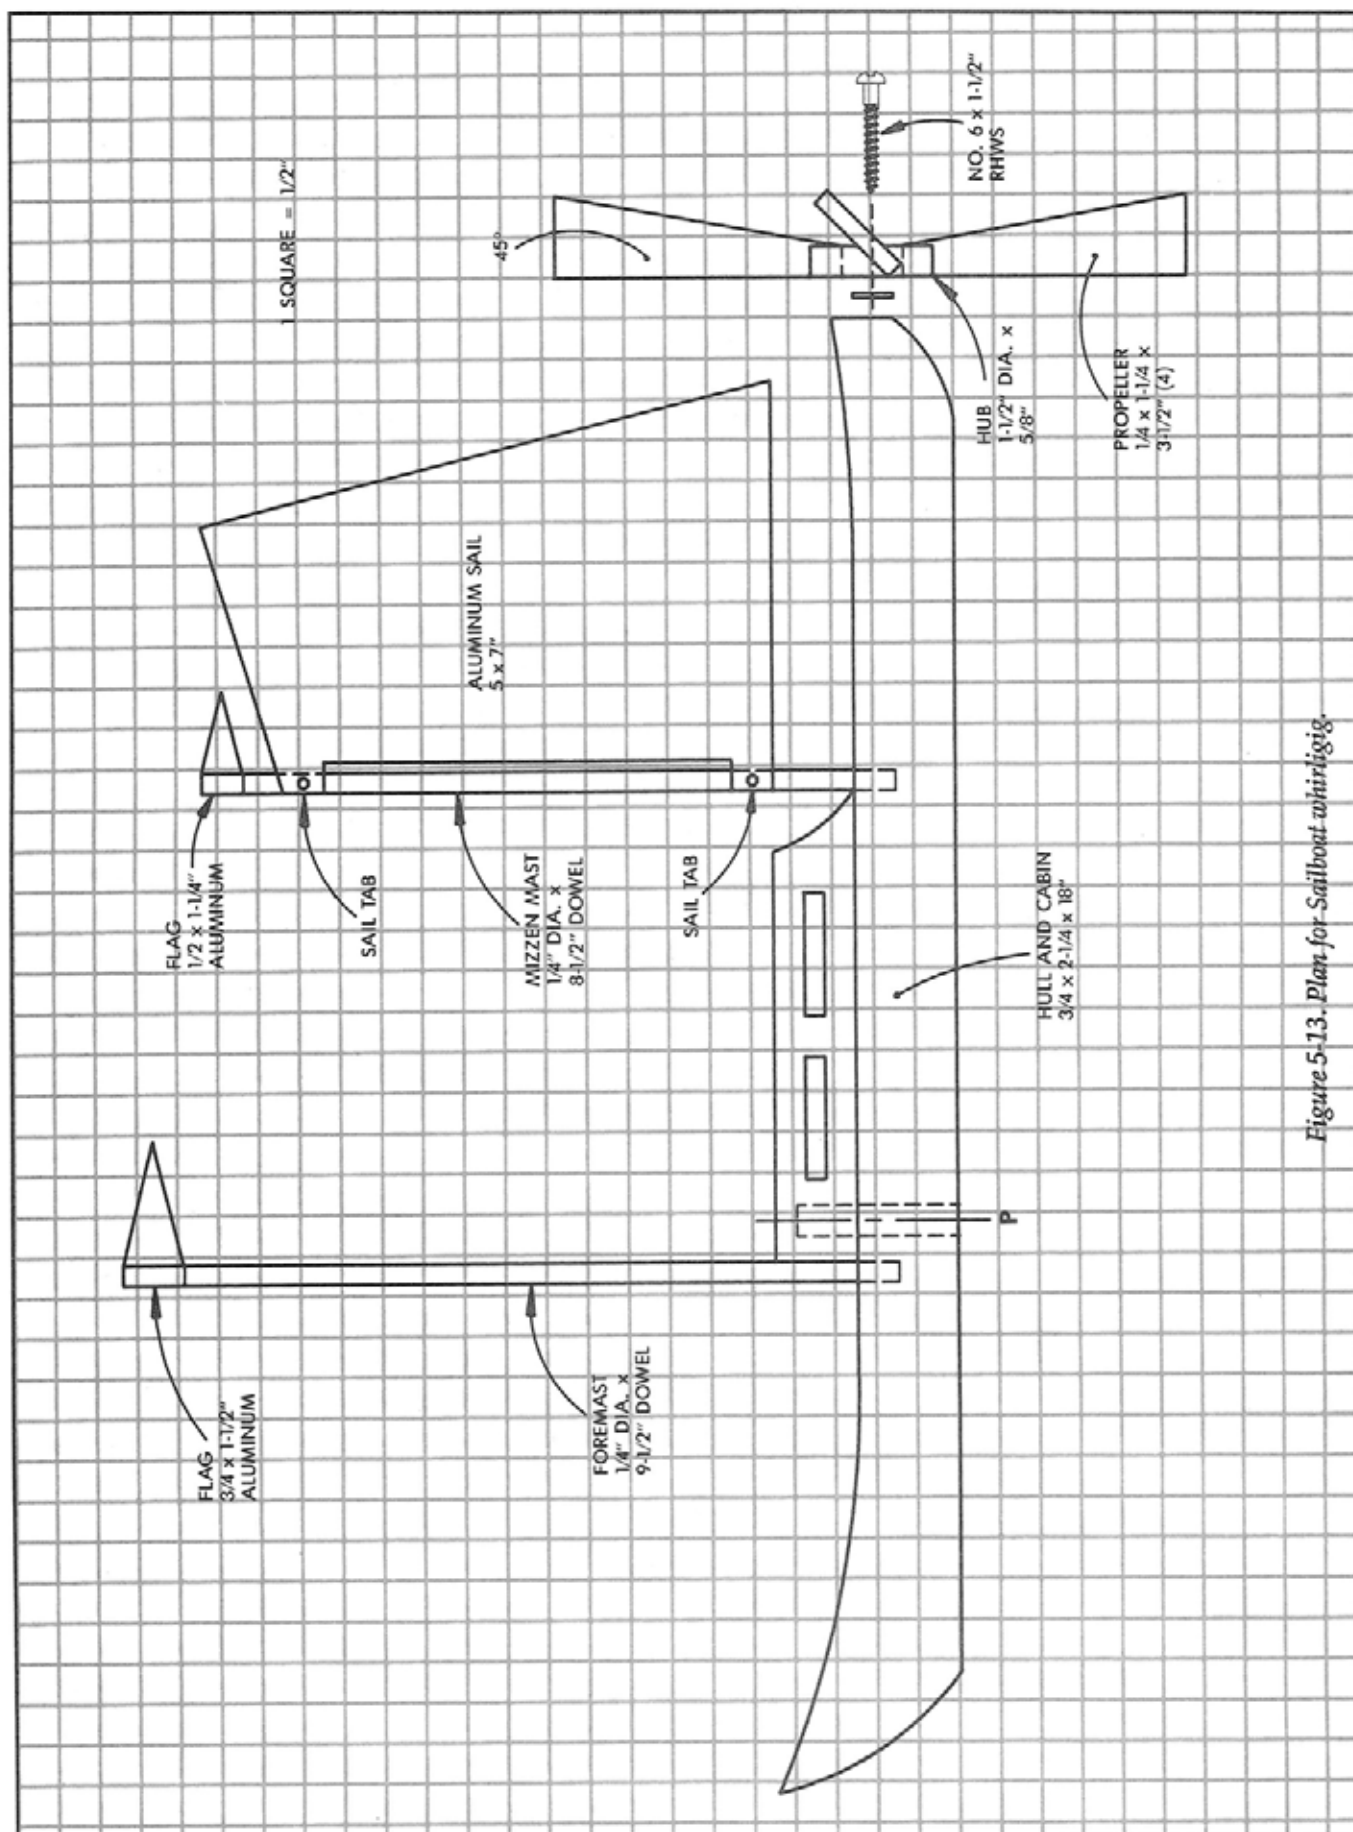

Figure 5-13. Plan for Sailboat whirligig.
1. Cut out the boat hull, which includes the cabin, then drill holes for the 1/4 in. diameter masts before and aft the cabin (Fig. 5-13). Drill the pivot socket 7 in. from the bow and line it with tubing or a tension pin, adding a metal cap.